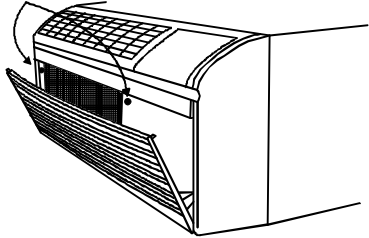

Figure 1
1. Remove the two screws securing the unit front to the chassis. (Figure 1). Tilt the bottom of the unit front outward and then up. **NOTE:** Not all installations will use these screws.